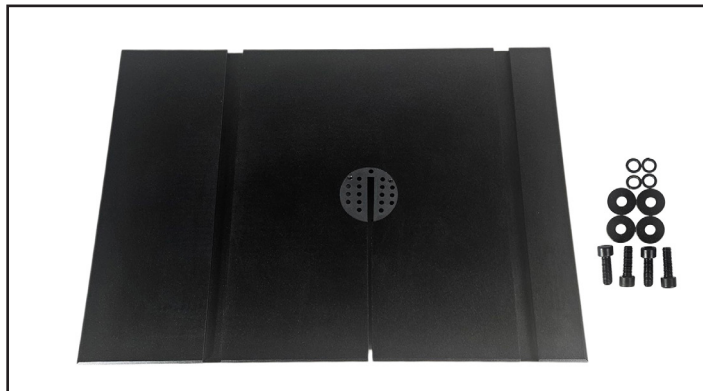

FIGURE 1
1. These steps require the Table (#1C), four M8 Flat Washers, four M8 Spring Washers and four M8x25 Hex Socket Cap Screws (Parts #20C, 21C, 22C) Fig. 1.